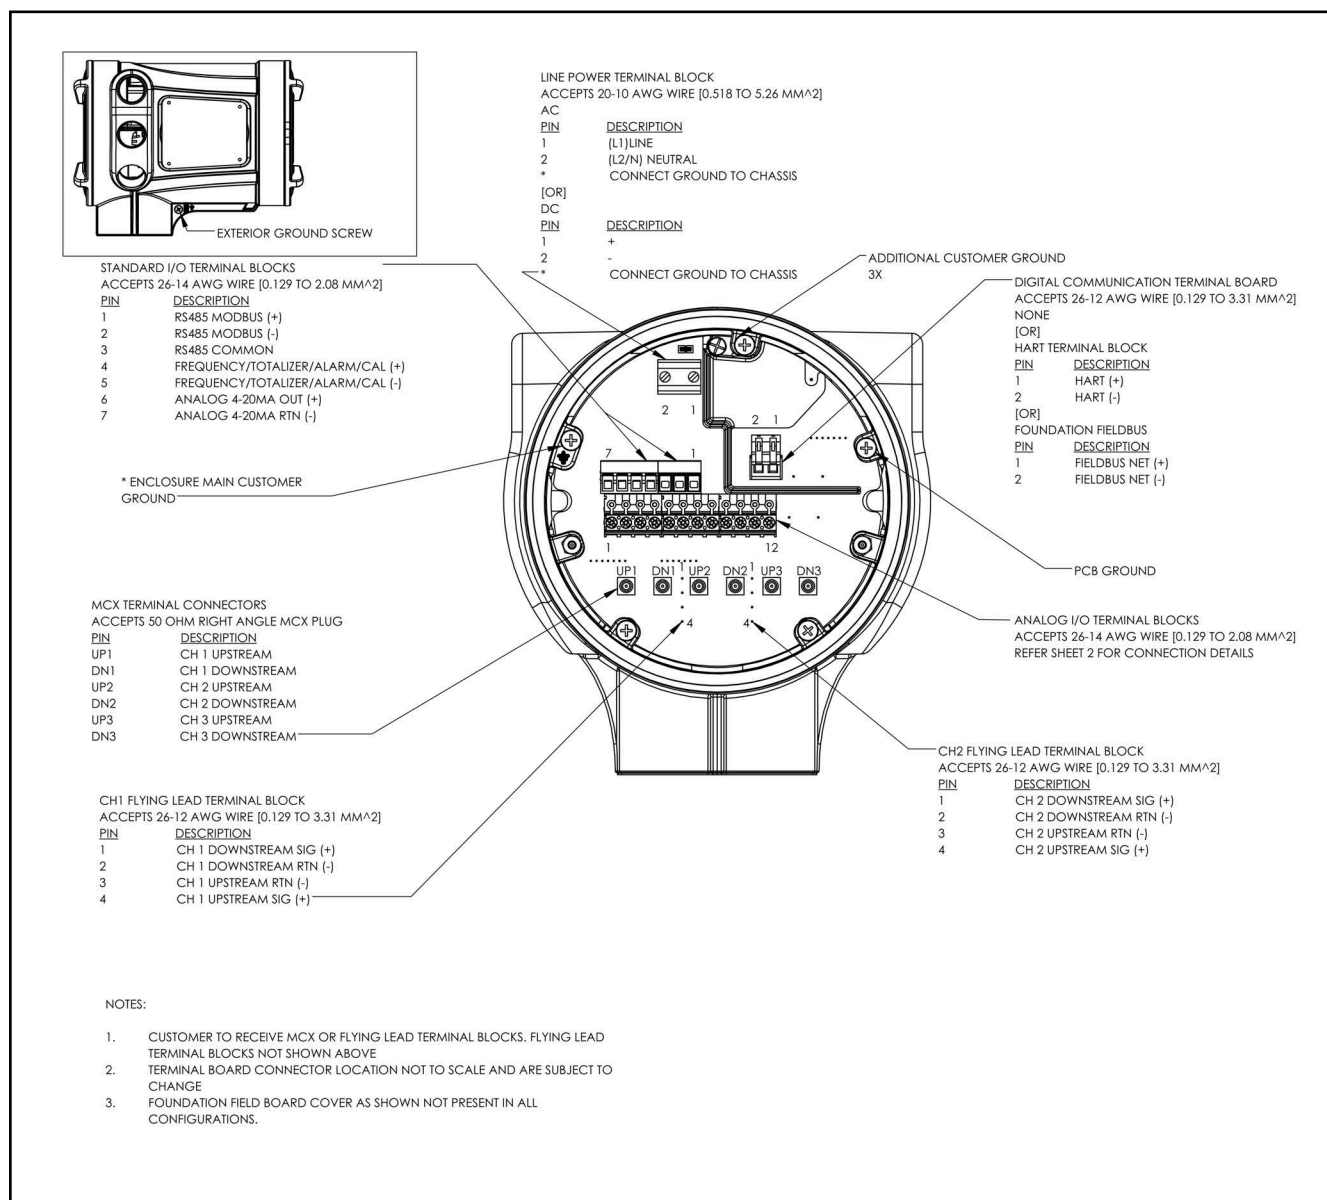

Figure 12: XMT1000 Terminal Board Wiring Diagram
This section contains instructions for making all the necessary electrical connections for the XMT1000 flow transmitter. Refer to *Figure 12 on page 13* for a complete wiring diagram.
**WARNING!** Proper grounding of the XMT1000 enclosure via the external grounding screw on the enclosure (see *Figure 12 on page 13*) is required to prevent the possibility of electric shock. All ground screws should be hand tightened only, to a maximum allowable torque of 2.5 N-m (22 in-lb).
3. Refer to *Figure 12 on page 13* for the location of the terminal block and wire the analog output as shown. Secure the cable gland.
3. Refer to *Figure 12 on page 13* for the location of the terminal block and wire the digital output as shown. Secure the cable gland. Refer to *Chapter A, Specifications*, for the load and voltage requirements.
To wire to this RS485 serial port, refer to *Figure 12 on page 13* and complete the following steps:
The XMT1000 flow transmitters has the option for an additional 4–20mA/HART output or a Foundation Fieldbus output on terminal block #1 (TB1) per *Figure 12 on page 13*. In the HART system an active signal is used, whereas FF corresponds to a passive signal. Connections to this output may be made with standard twisted-pair wiring, but the current loop impedance for this circuit must not exceed 600 ohms.
3. Refer to *Figure 12 on page 13* for the location of the terminal block and wire the HART or Foundation Fieldbus output as shown. Secure the cable gland.
The XMT1000 flow transmitters has the option for additional analog outputs, analog inputs, and RTD inputs on terminal block #2 (TB2) per *Figure 12 on page 13*. Connections to this output may be made with standard twisted-pair wiring.
3. Refer to *Figure 12 on page 13* for the location of the terminal block and wire the additional I/O output as shown along with the table below.
Refer to Figure 12 on page 13 and Section 2.7.1, "Wiring the Analog Outputs" to locate the Channel 1 and Channel 2 flying lead terminal blocks.
Refer to *Figure 12 on page 13* to locate the terminal blocks and connect the line power as follows:
3. Route the cable through the conduit hole and connect the line power leads to the power terminal, using the pin number assignments shown in *Figure 12 on page 13*.